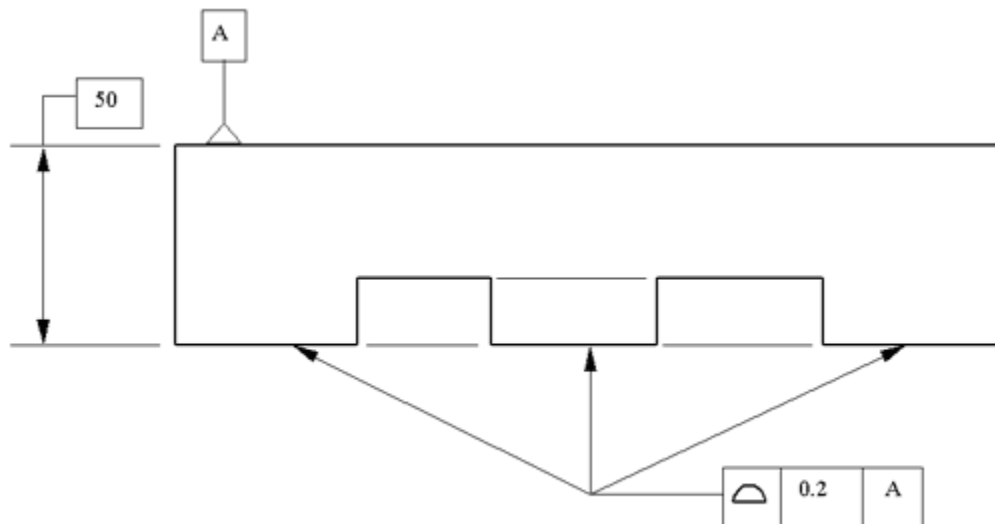

Figure 4
24.) Using Figure 4, how flat must the considered surfaces be (worst case) to meet the print requirements?
25.) In Figure 4, if the actual of the overall height (when measuring the part against the 50mm specification) was 50.15, would that part be within the print specifications?